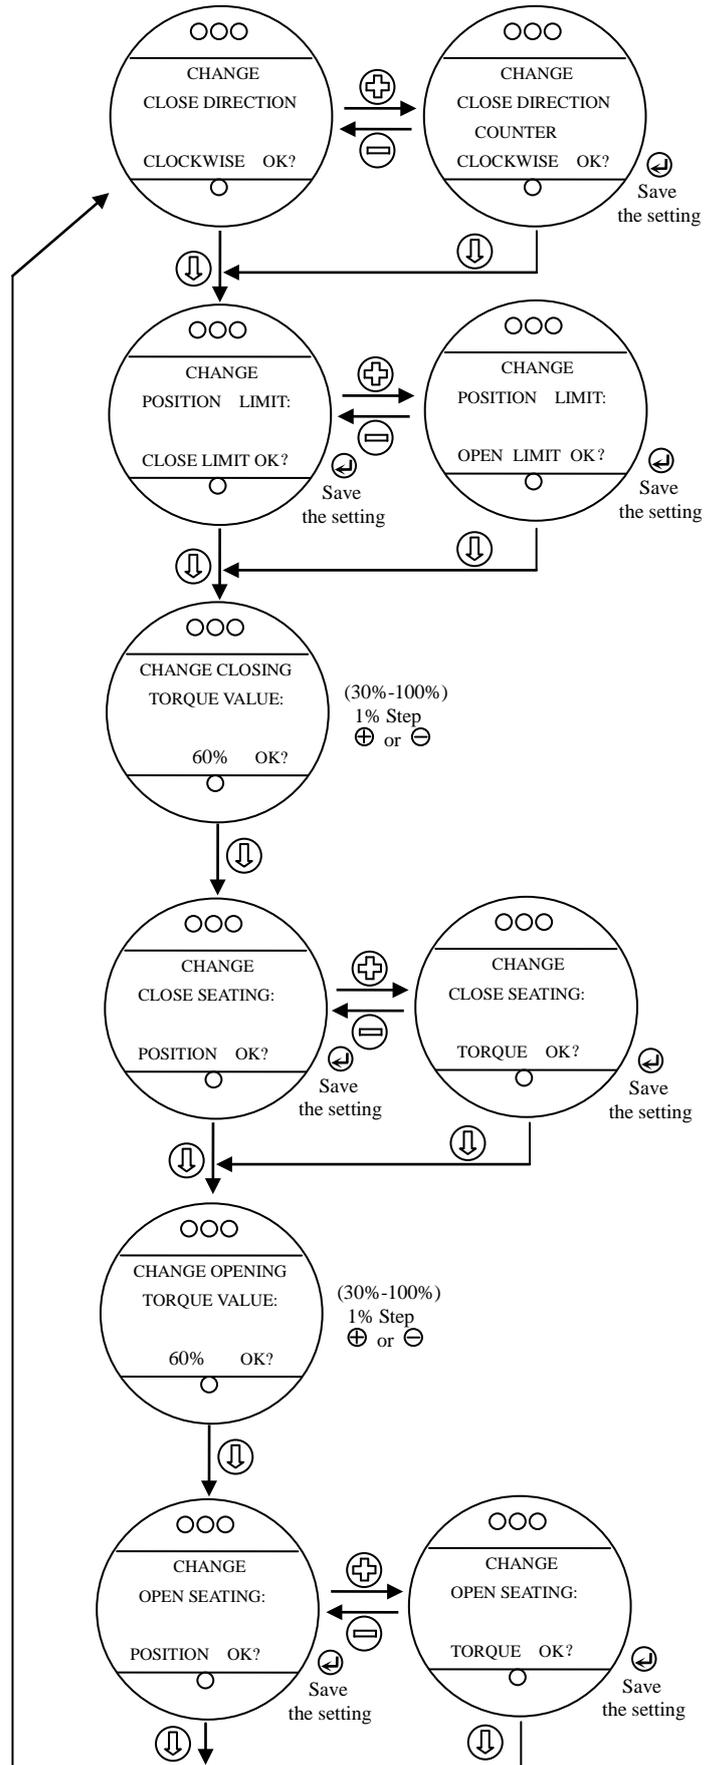

Fig. 4-2 First setup
2. Enter the "SETUP" mode, switch the menu page to **CHANGE CLOSE DIRECTION**, see figure 4-2, then choose **CLOCKWISE** or **COUNTERCLOCKWISE** which is decided by the result of check above. Press "↵" key to save.
3. Enter the the "SETUP" mode, switch the menu page to CHANGE CLOSE SEATING, see figure 4-2, then choose TORQUE or POSITION by pressing "+" or "-" key. Press the "↵" for saving and the "↶" to the previous menu.
3. Enter the "SETUP" mode, switch the menu page to CHANGE CLOSE SEATING, see figure 4-2, then choose TORQUE or POSITION by pressing "+" or "-" key. Press the "↵" to save